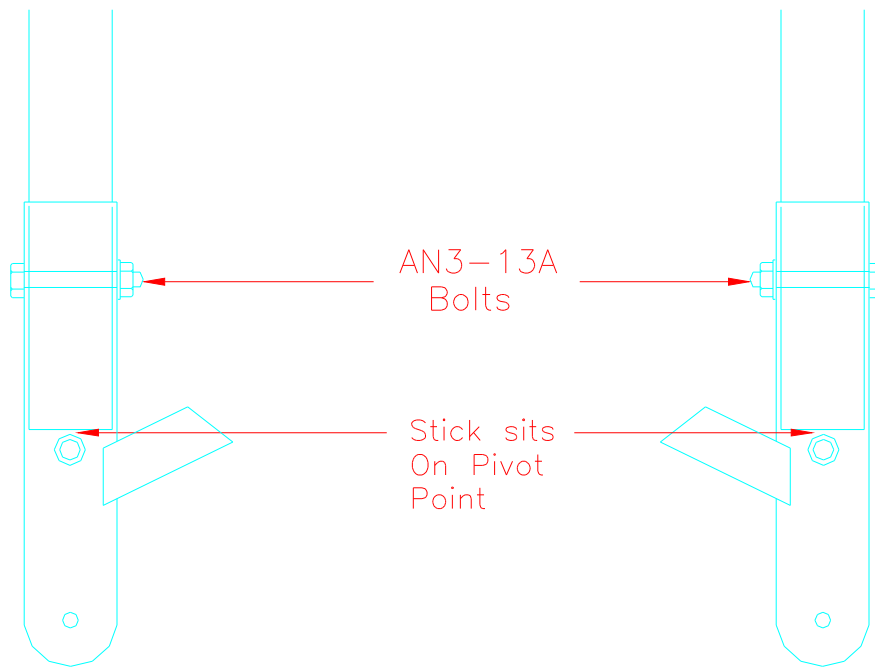

Figure 15.2.2
3) Drill a #11 hole through the control stick base and control stick. Bolt together with AN3-13A bolts, AN960-10 washers, AN365-1032 fiber nuts. Figure 15.2.2.